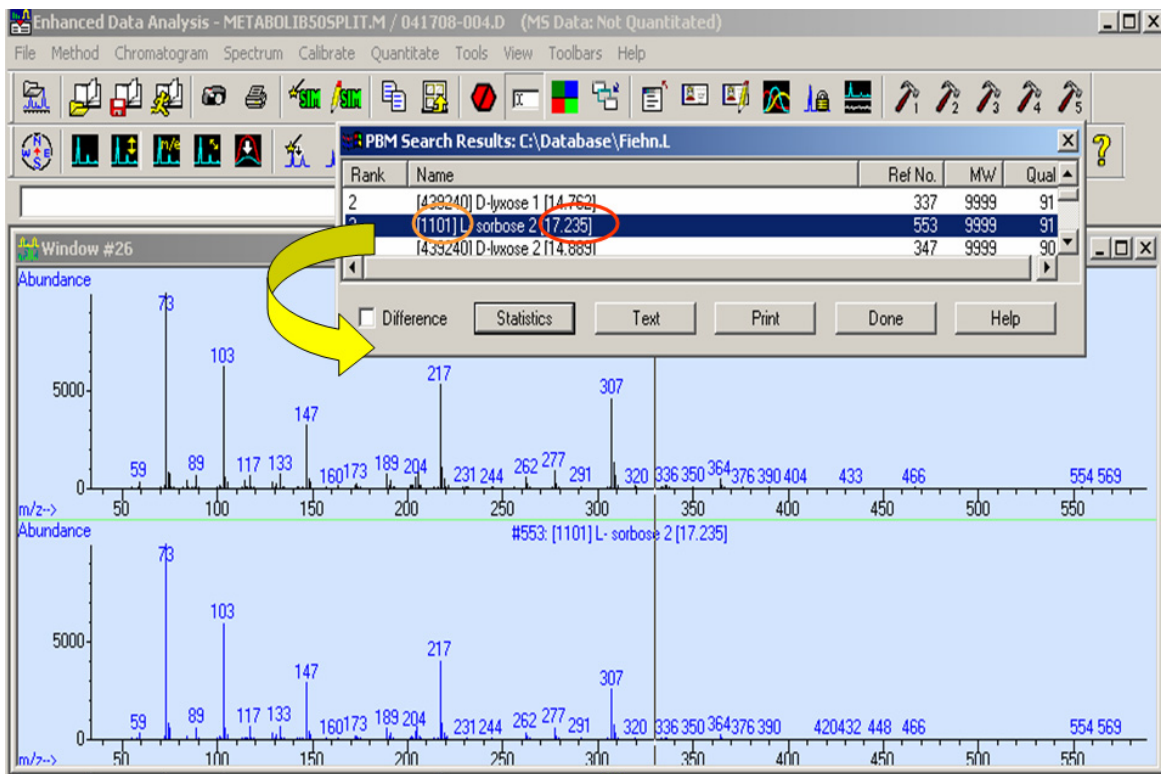

Figure 8 Identification of sorbose 2 by mass spectral similarity and RT comparison using the PBM Quick Search.
The Agilent Fiehn 2013 GC/MS Metabolomics RTL Library supports PubChem identifiers. The library includes them for every spectral entry, which is given in brackets ahead of the metabolite name. Therefore, the PubChem numbers can be retrieved either from AMDIS or from an Agilent PBM Quick Search (Figure 8 on page 55). PubChem identifiers refer to the publicly available and free library of chemical compounds hosted and curated by the U.S. National Center of Biotechnology Information (NCBI) (www.ncbi.nlm.nih.gov/pccompound) from which links to other NCBI databases can be found, such as PubMed scientific literature, NCBI's protein 3D database, and outlinks to biochemical databases such as the KEGG ligand database. PubChem identifiers are linked and could be used in other repositories as well, so that users of the Agilent Fiehn Library are enabled to query Internet resources using either the CAS numbers or the PubChem entries. An example of use of the PubChem identifier is given in Chapter 7, "Using CAS and PubChem Numbers".
The PBM Search Results dialog box is shown in Figure 8. The selected spectrum is displayed graphically at the top of the window with the currently selected PBM Search Results dialog box library compound hit graphically displayed directly below.
- 4 From the PBM Search Results dialog box of similar spectra, use the displayed bracketed RT values, shown circled in red in Figure 8, to make a correct identification of the compound.
The PubChem identifier number is shown circled in orange in Figure 8.